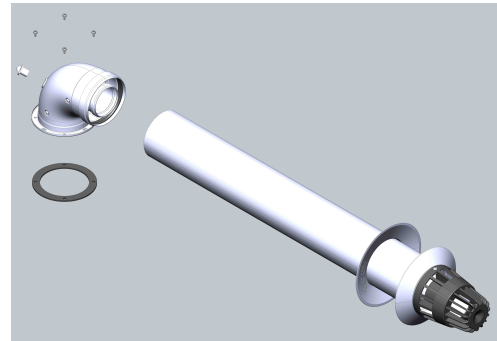

Figure 7 – Horizontal Flue Kit
- Horizontal air/flue kit accessories (fig.7) :